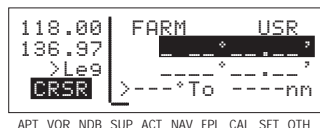

Figure 4-83
5. Press **ENT**. The display will change to a format like figure 4-83.